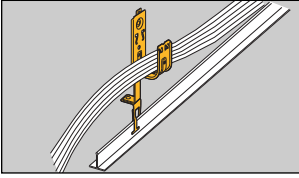

Figure 33 - BCHxx-A28
4.6.2.2 Clearance. A minimum of 75 mm (3 in.) clear vertical space shall be available above the ceiling tiles for the horizontal cabling and pathway. (See Figure 33)
4.6.5.1 Where zone conduit or cable tray is not available in a suspended ceiling space and where telecommunications cables are allowed to be placed in the ceiling, adequate open-top cable supports, located on 1220-1525 mm (48-60 inch) centers, shall be provided. Where larger quantities of cables (50-75 cables) bunched together in the ceiling at a congested area, such as close to the telecommunications closet, special supports shall be designed and installed to carry the additional weight. (See Figures 33 & 34)
4.6.5.2 A suspended ceiling support rod or wire may be used to mount appropriate cable fasteners loaded with multiple cables up to the total weight for which the fastener is approved. The T-bar rail of a suspended ceiling may be used to mount appropriate cable fasteners loaded with cable up to a total weight of 0.7 kg/m (0.45 lb/ft). The fastener design shall not interfere with the inserting or removing of the ceiling tile. (See Figures 33 & 34)